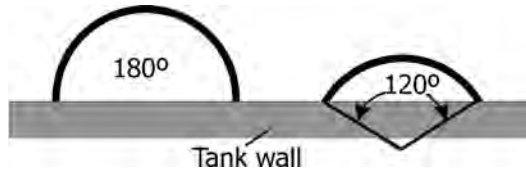

FIGURE 12.12 Half-pipe jacket angles. (Courtesy: Santosh Singh (process.santosh@gmail.com).)
- Half-pipe coil jackets are generally made with either 180° or 120° central angles (D_{ci}) as illustrated in Figure 12.12.